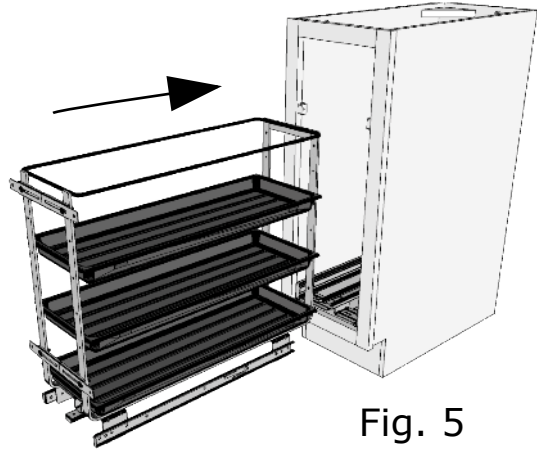

Fig. 5
6. Re-engage upper frame assembly to cabinet slide assembly as shown in Fig. 5.